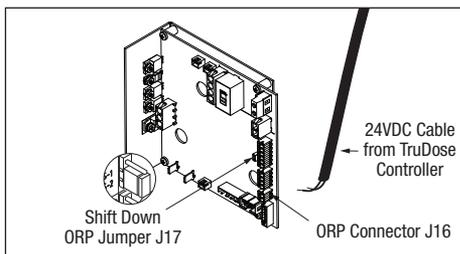

Figure 7. ORP Jumper J17 and ORP Connector J16
An external device such as an ORP (Oxidation Reduction Potential) controller can be used to control the output of the chlorine generator. The chlorine generator Power Interface Board (PIB) can be set up in the field to operate in two (2) different modes. The mode of operation is determined by the position of a movable jumper J17. See Figure 7 for location.
An external device such as an ORP (Oxidation Reduction Potential) controller supplying 24 VAC can be used to control the output of the chlorine generator. The chlorine generator Power Interface Board (PIB) can be set up in the field to operate in two (2) different modes. The mode of operation is determined by the position of a movable jumper J17. See Figure 7 for location.